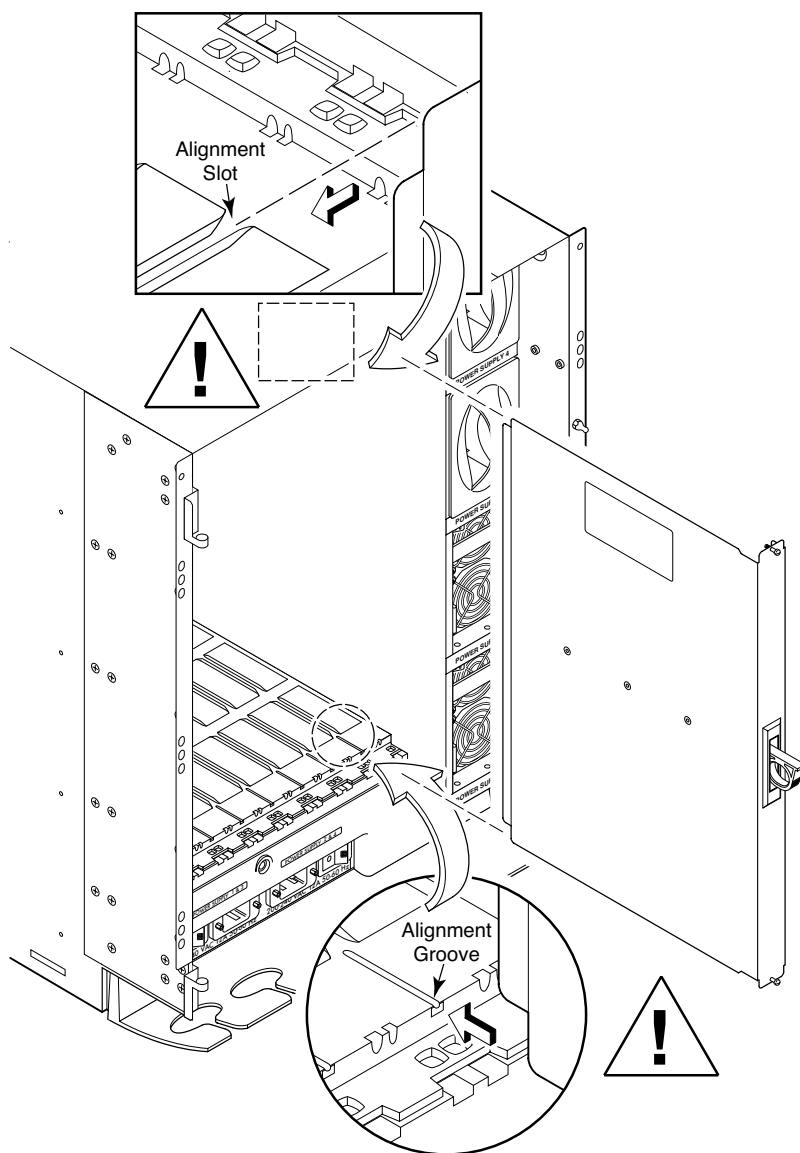

Figure 24 Card guides inside each card slot
2. Open the ejectors to approximately 45 degrees, align the flat side of the 16-port card inside the upper and lower rail guides in the slot (see Figure 24), and slide the 16-port card into the slot, with slight pressure to the left, until it is firmly seated.
1. Align the flat side of the filler panel inside the upper and lower rail guides in the slot (see Figure 24); then, slide the filler panel into the slot (with slight pressure to the left) until it is firmly seated.